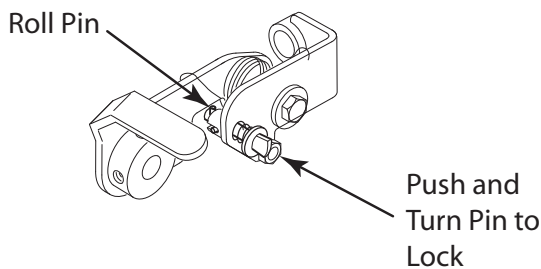

FIGURE 2-2
2. Lock the SCZ Striper up in the transport position by lifting upward on the handle, push and turn the lock pin 90 degrees. The small roll pin must be out of the slot in the bracket to lock in the transport position. See Figure 2-2.